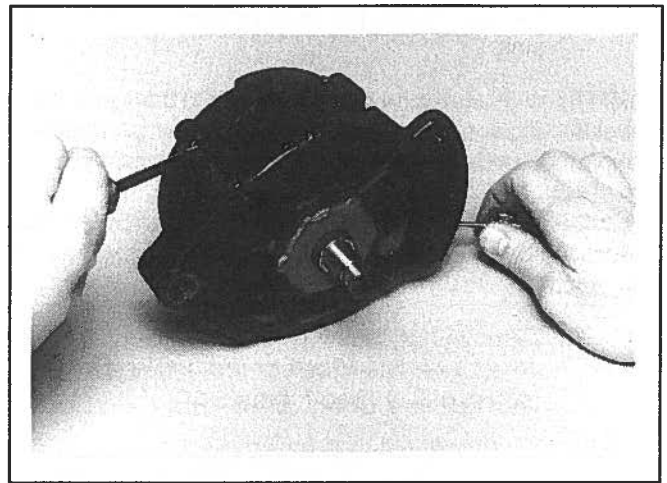

Figure 6-97. Separating Rear End-Frame From Stator
6. Using two screwdrivers in slots shown, separate rear end-frame and stator assembly from front end-frame and rotor assembly (Figure 6-97).